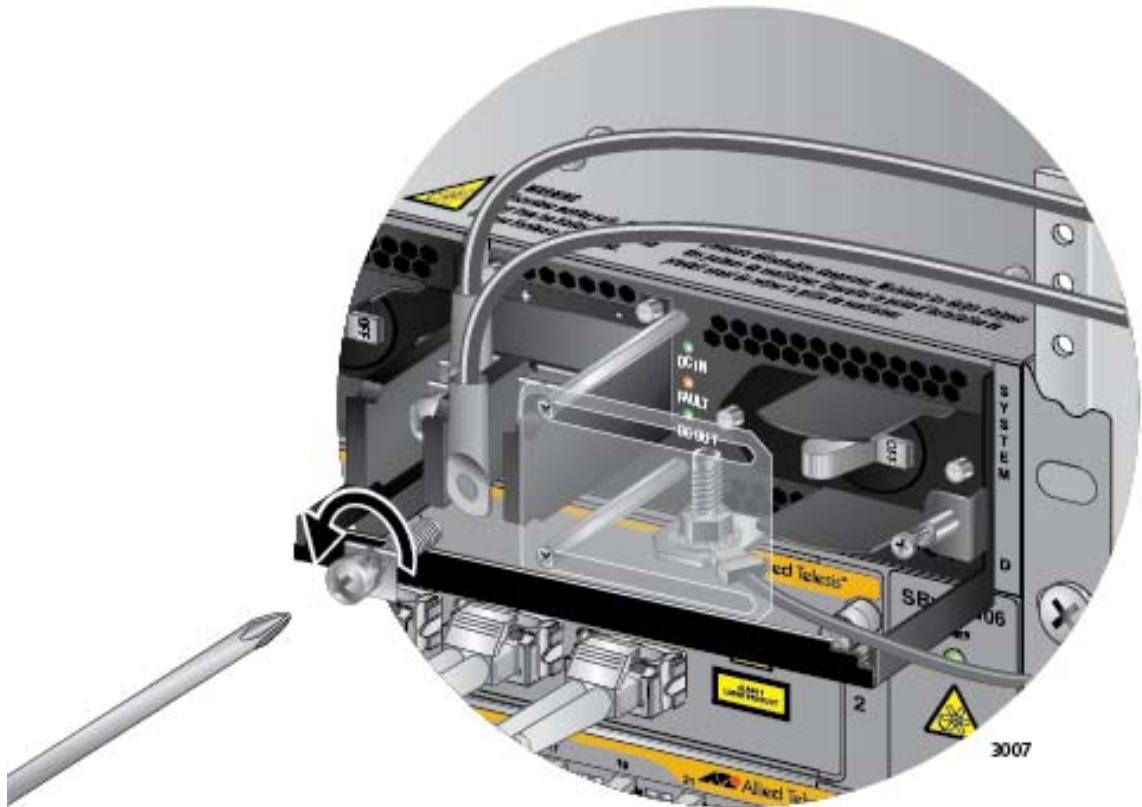

Figure 172. Removing the Negative Lead Wire
5. Use a #3 screwdriver to remove the negative (-) lead wire from the terminal block. The negative lead wire is on the right. Refer to Figure 172 on page 275.